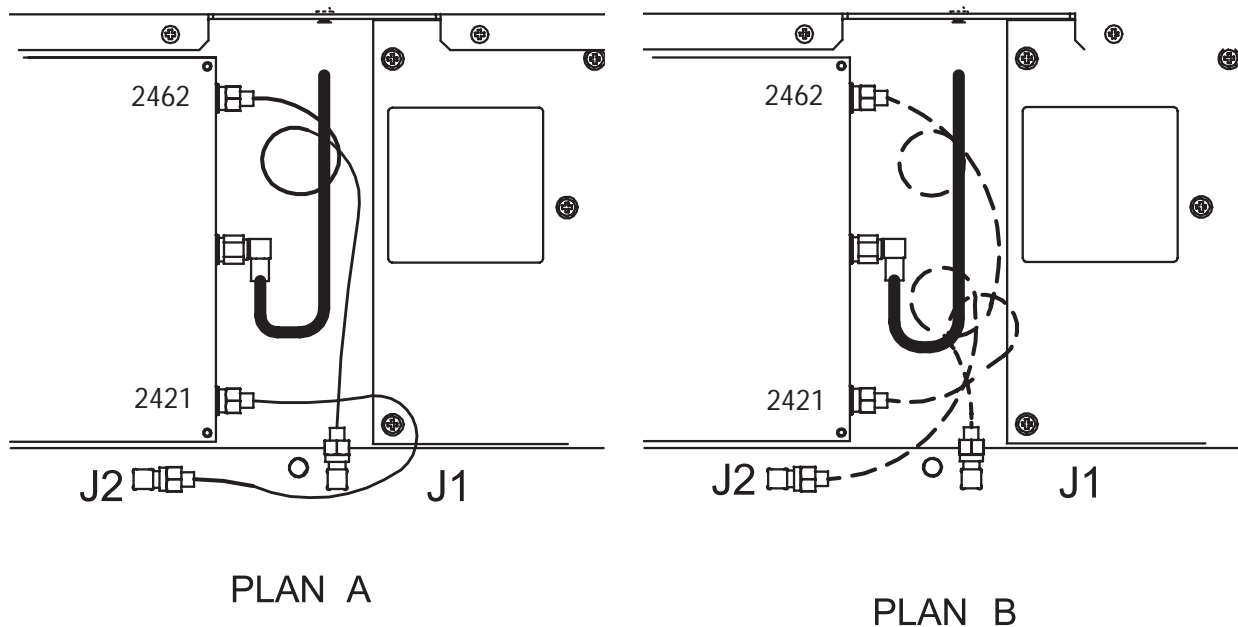

Figure 3. TRACER 4103 Cable Routing Diagrams
- Carefully flex the cables to swap the connections. Be careful with the RF cables, making sure that the minimum bend radius of the cable is greater than 0.75"; bends and loops smaller than a quarter will cause the RF cable to break. Use the wiring guidelines in Figure 3 and Figure 4 on page 4 for help with wire placement. Click here for a digital picture of this step.